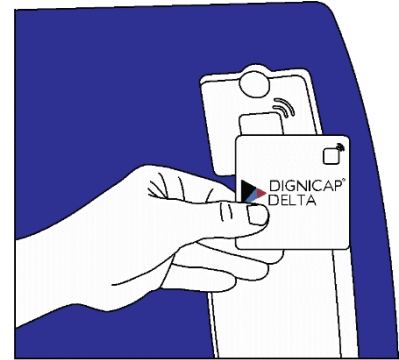

Figure 11. DeltaCard and Reader
1. As prompted by the device, place the DeltaCard on the card reader. It is located at the top with an NFC symbol (Figure 11). Pressing the BACK button will transition back to the Start Screen.